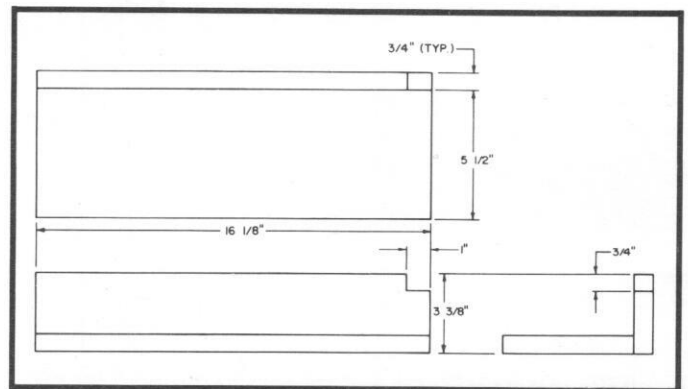

Fig. 1
1. For the Delta 34-080 miter box, construct the fence and table support by following the dimensions shown in Fig. 1.